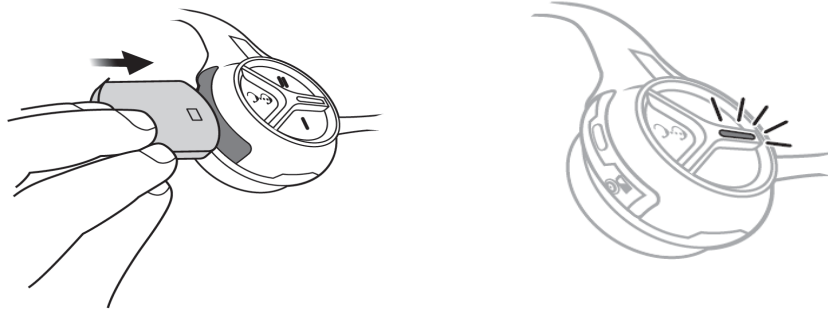

Figure 10.
5. Insert battery into the now assembled headset. See Figure 10.